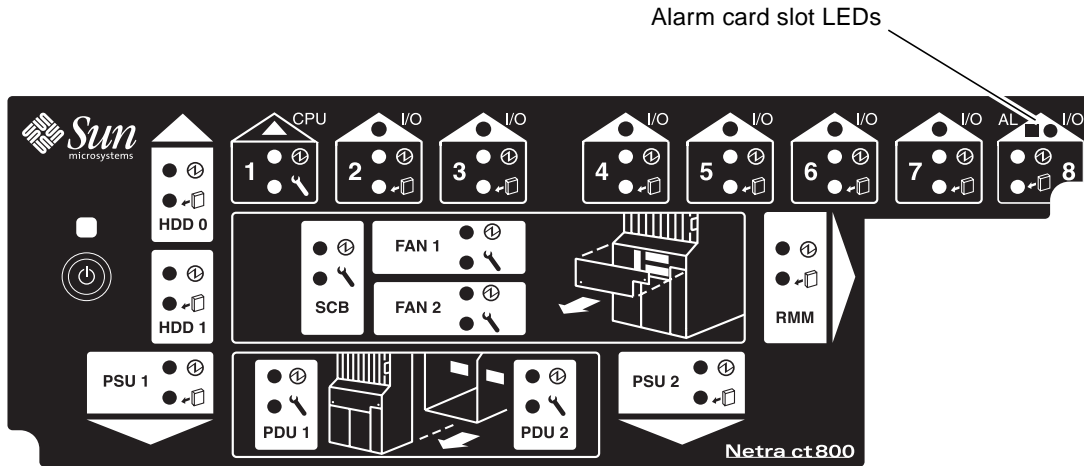

FIGURE 6-13 Locating the Alarm Card LEDs on the System Status Panel (Netra ct 800 Server)
- 9. Locate the LEDs on the system status panel for the alarm card to determine if the card has been deactivated (FIGURE 6-13).**
FIGURE 6-13 on page 6-22 shows the location of the alarm card LEDs on the Netra ct 800 server.